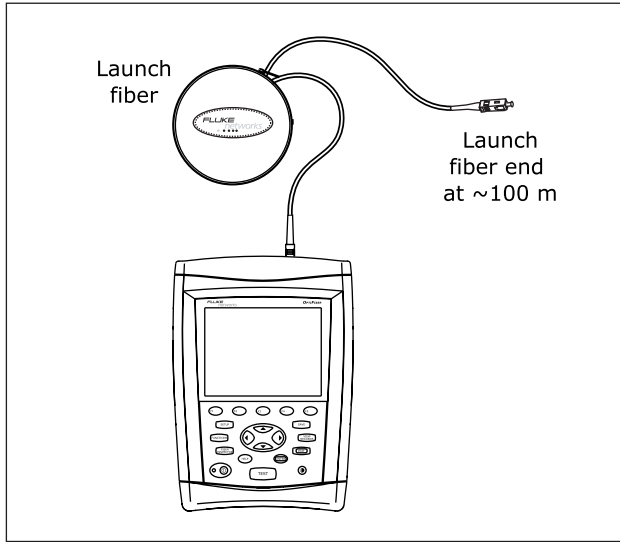

Figure 3-1. Launch Only Compensation Connections
5. Connect the launch fibers to the tester's OTDR port as shown on the screen and in Figure 3-1, 3-2, or 3-3; then press **ENTER**.